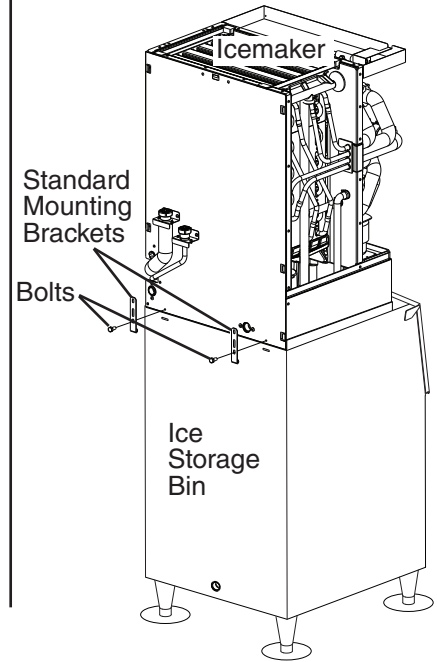

Fig. 5b
- 6b) **Ice Storage Bin:** Secure the icemaker to the ice storage bin using the standard mounting brackets and the machine bolts provided. See Fig. 5b.